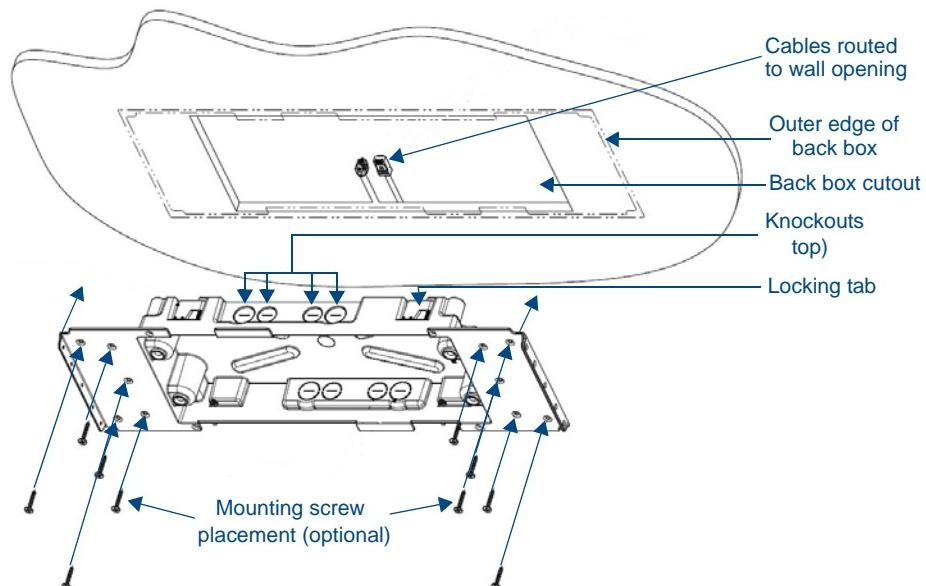
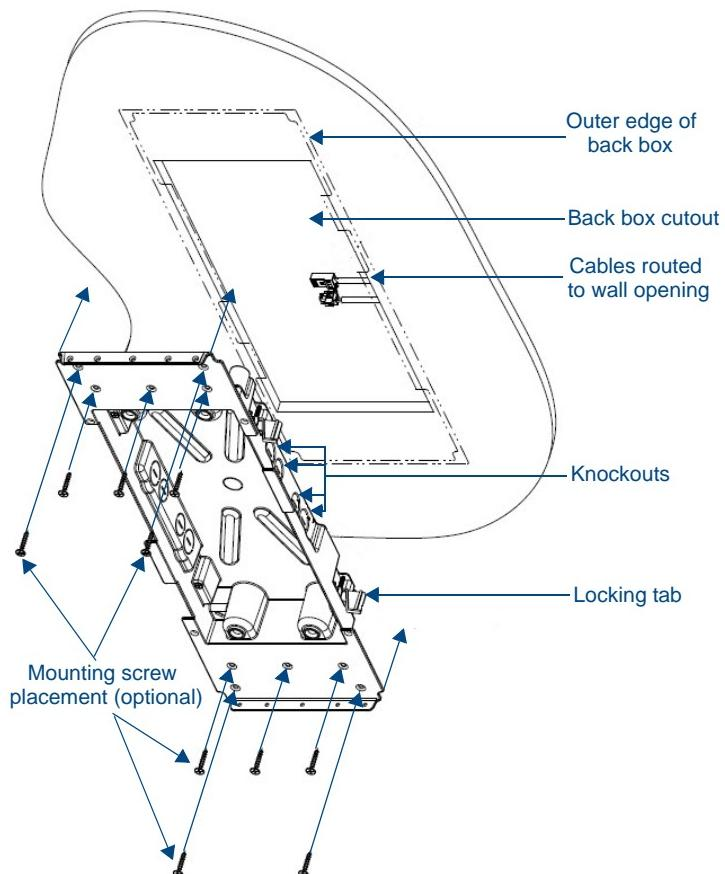

FIG. 18 MXD-1900L-PAN Back Box installation (Landscape)
FIG. 19 MXD-1900L-PAN Back Box installation (Portrait)
4. Thread the incoming power, Ethernet, and Micro-USB wiring (if Micro-USB access is desired) from their terminal locations through the surface opening (FIG. 18 and FIG. 19). Leave enough slack in the wiring to accommodate any re-positioning of the panel.
5. Remove any knockouts as needed on either long dimension of the back box (FIG. 18 and FIG. 19) to facilitate incoming wiring and pull the wiring through the resultant holes.
8. For additional strength, #4 mounting screws (not included) may be secured through circular holes located at the left and right sides of the MXD-1900L-PAN (FIG. 18 and FIG. 19). In order to prevent damage to the touch panel, make sure that these are flush with the back box.